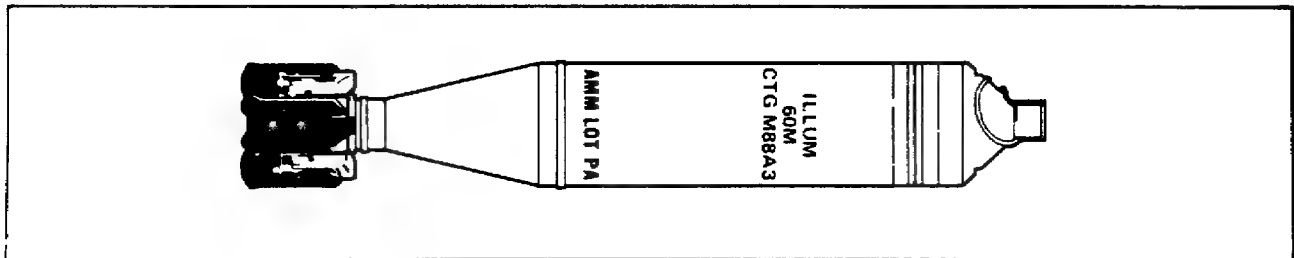

Figure 23. 60mm Illuminating Mortar Cartridge.
**60mm Illuminating Mortar Ammunition.** The 60mm illuminating mortar cartridge is used to light night missions. The illuminating cartridge is shown in Figure 23. Note that the body has an elongated cylindrical shape and has no gas check band or obturating ring, the fuze is short and 60mm in diameter at its base, and the fin assembly and propellant increments are the same as in the old HE cartridge and the white phosphorous round. This round contains an expelling charge of low-explosive, an illuminating charge, and a parachute. The fuze functions 15 seconds after firing. It ignites the expelling charge, and expanding gases push the entire contents rearward. The pressure shears off the pins holding the fin assembly, and the illuminating charge is ignited. The illuminating charge is expelled, and the parachute opens. The burning illuminating charge provides light as it descends by parachute. The round is white with black markings.